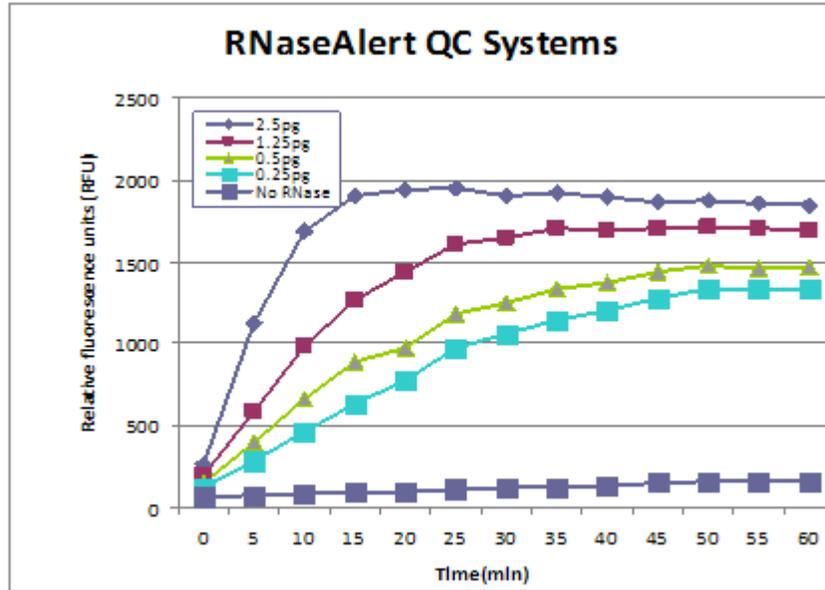

Figure 1 Real-time fluorescent monitoring of RNase A activity
8. Collect fluorometer data points every 1–1.5 minutes over 15 minutes (Figure 1). RNase A can adhere to the walls of most 96-well plates (including “low protein binding” plates), thus an initial velocity over the first few minutes of the reaction should be used to accurately calculate the specific activity of the RNase A.